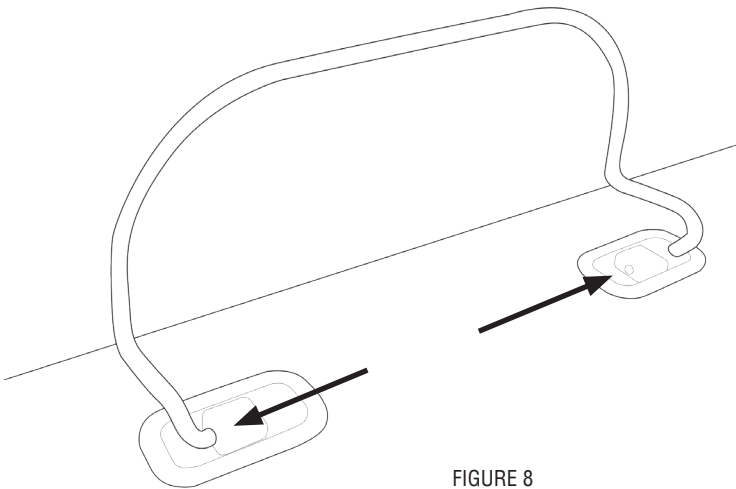

FIGURE 8
**COVERED PANEL BASE** - Place one end of the mattress retainer into the outside hole of the left insert and place the other end into the outside hole of right insert (FIGURE 8).